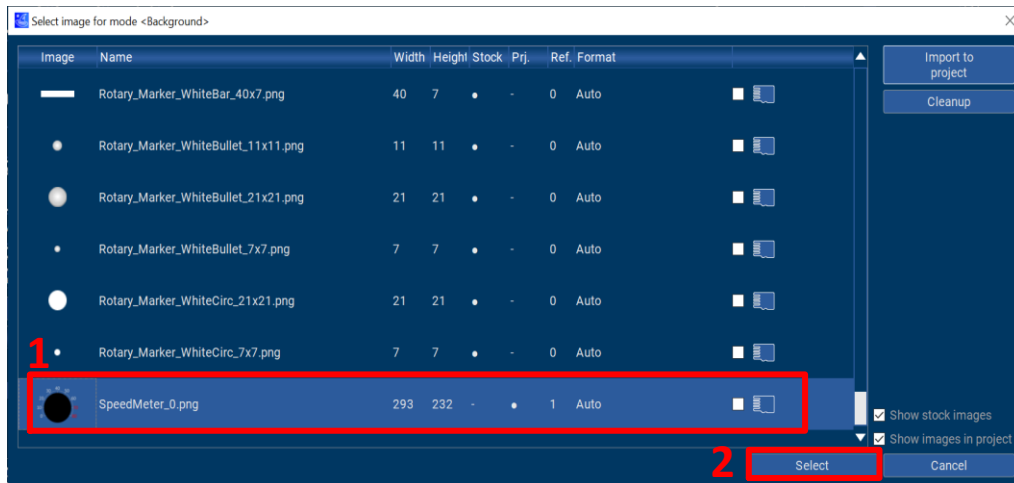

Figure 1-12 Rotary - Properties - Bitmap
- 2) Follow the steps shown in Figure 1-12. After importing the images, select image